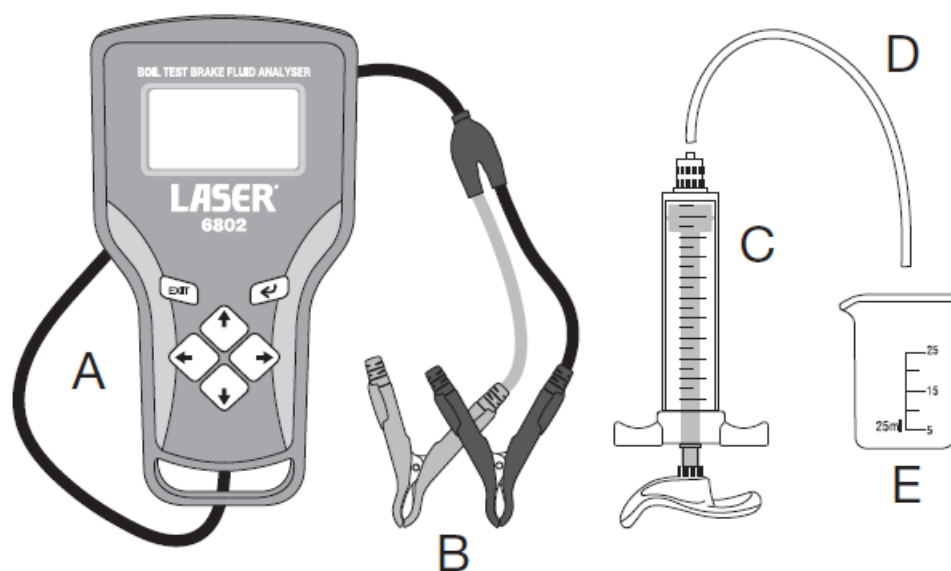

Fig 1
2. Refer to Figure 1: fit the clear polyurethane tube (D) to the syringe (C). Using the syringe, remove approximately 25ml of brake fluid from the vehicle's brake fluid reservoir, then evacuate this fluid into the supplied brake fluid test container (E). Note: recommended volume of brake fluid to be tested is 20-25ml.